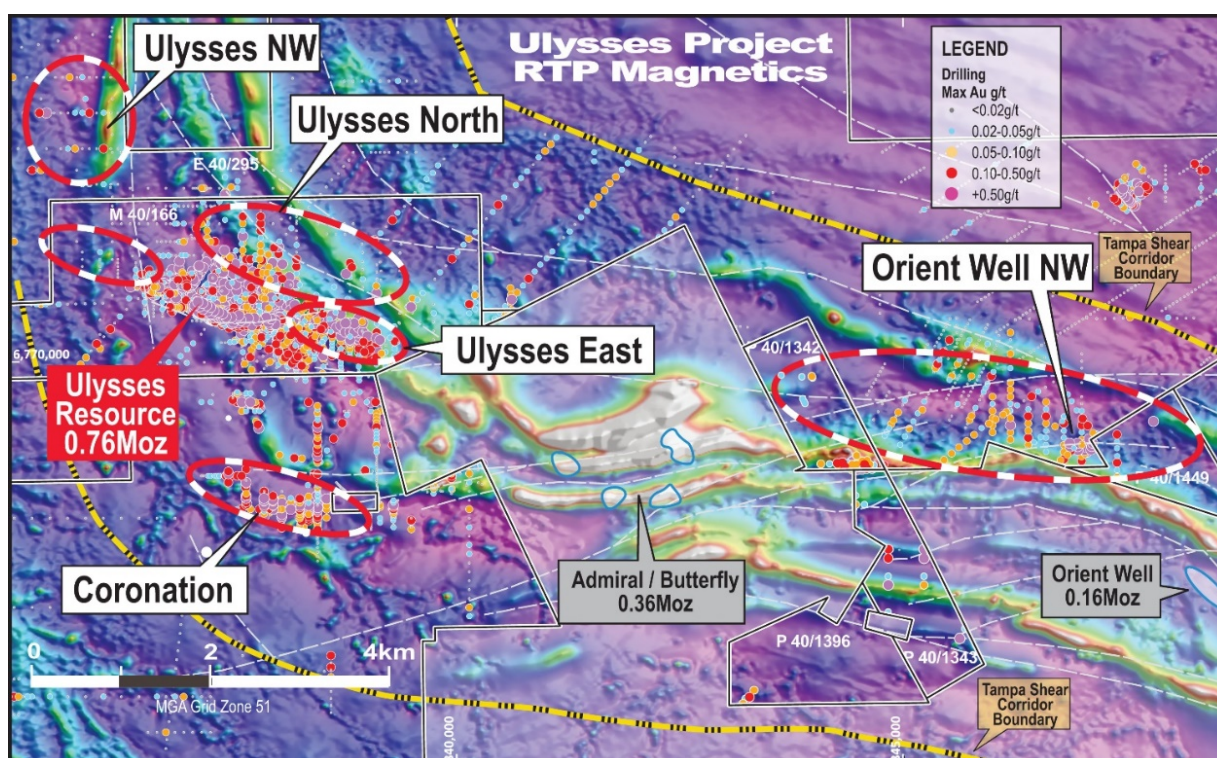

Figure 1. Location plan of Orient Well NW prospect, located 10km east of the Ulysses Resource.
Recent Reverse Circulation (RC) drilling has intersected further significant mineralisation at Orient Well NW (see Figure 1), located 10km east of the 760,000oz Ulysses Mineral Resource, highlighting the potential to delineate shallow Resources in this area which are potentially amenable to extraction via open pit methods.
The results highlight the potential for a new gold mineralised structure in the Ulysses North area (see Figure 1) that may dip and strike in a similar orientation to the Ulysses shear, which hosts significant gold mineralisation.